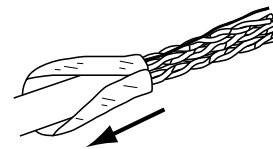

Fig. 2
2. Fold the shield back over the cable jacket, then trim the folded shield to 0.38" [9.53 mm]. The shield should wrap smoothly around the outside of the jacketed cable with the conductive surface exposed. (See Fig. 2 & 3).